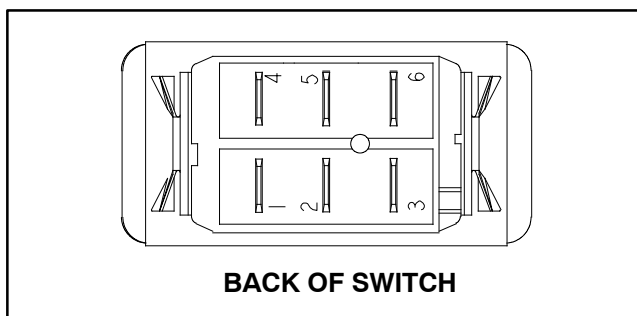

Figure 45
4. With the use of a multimeter (ohms setting), the switch functions may be tested to determine whether continuity exists between the various terminals for each switch position. The switch terminals are marked as shown in Figure 45. The circuitry of the switch is shown in the chart below. Verify continuity between switch terminals. Replace switch if testing identifies a faulty switch.